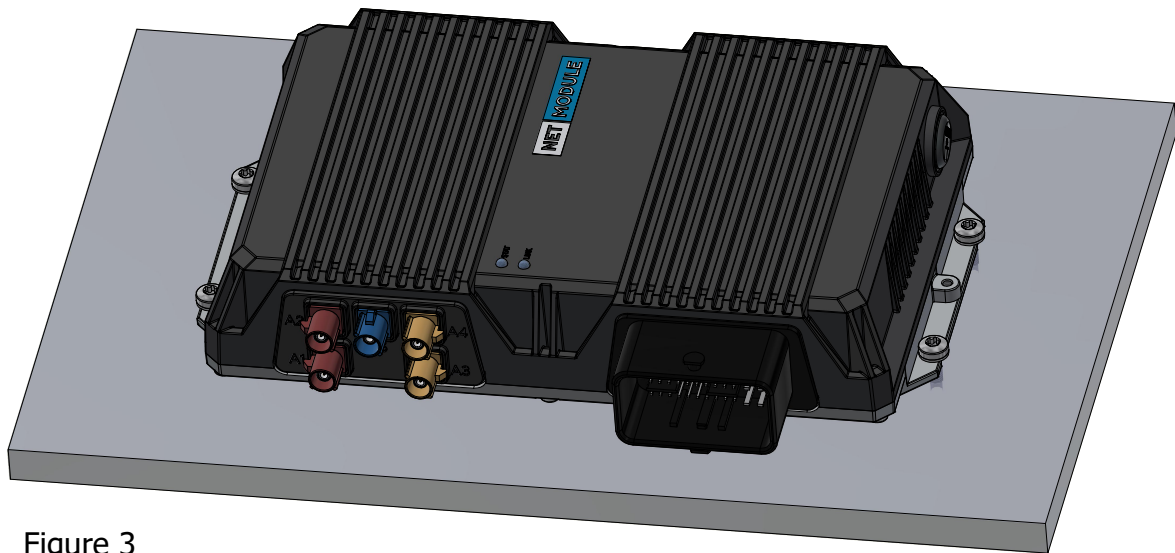

Figure 3
3.2 Tighten the screws | Drive type: Torx T20 | Torque: 2.5Nm (Figure 3)